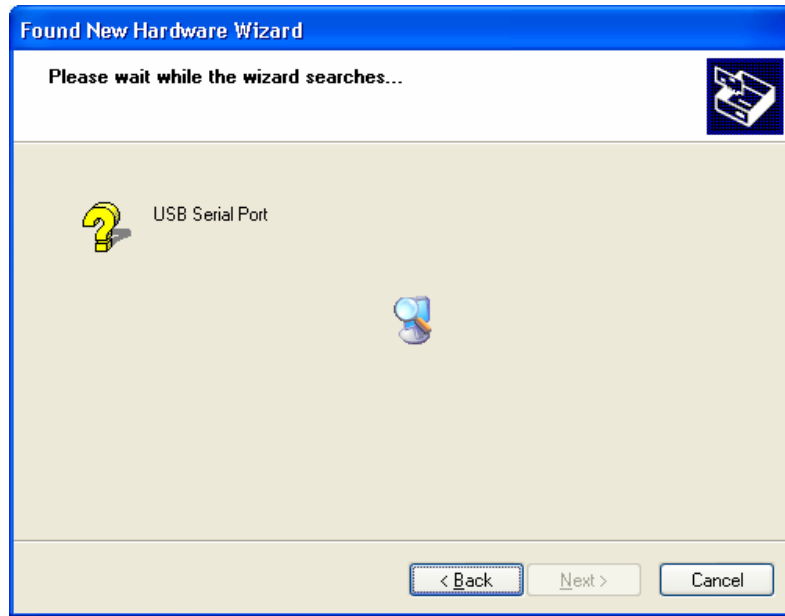

Figure 24. Driver Coping Window
8. A window is now displayed showing the driver software being located and then copied (Figure 24).